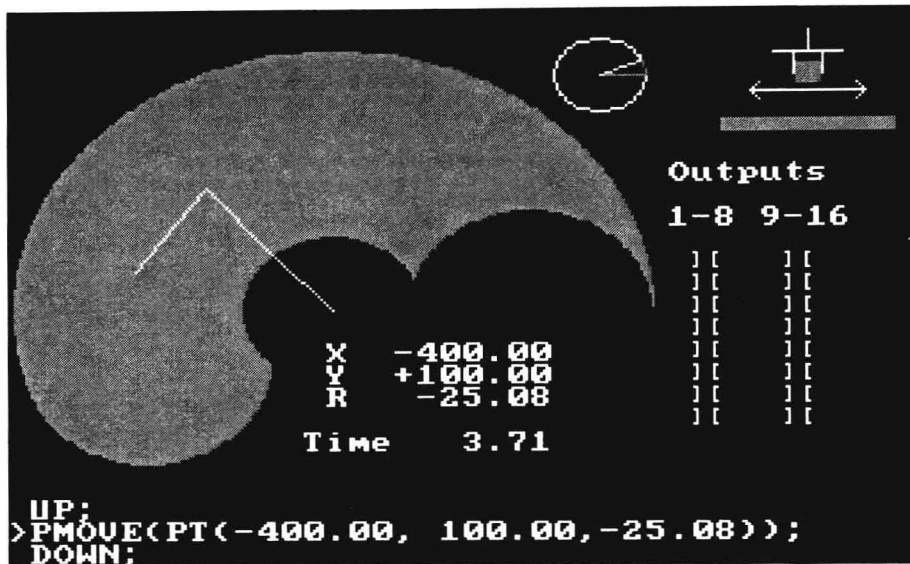

Figure 1-3 Robot Simulation Screen.
21. Repeat the steps listed in item (20). The message, Successful Compilation, will appear on the screen. Press any key to return to the Main Menu.
23. Type in EXER1 for file name. Type the letter N after the change input and metric to inches prompt. On the screen, you will see a simulation of a robot carrying out the program you have written, Figure 1-3.